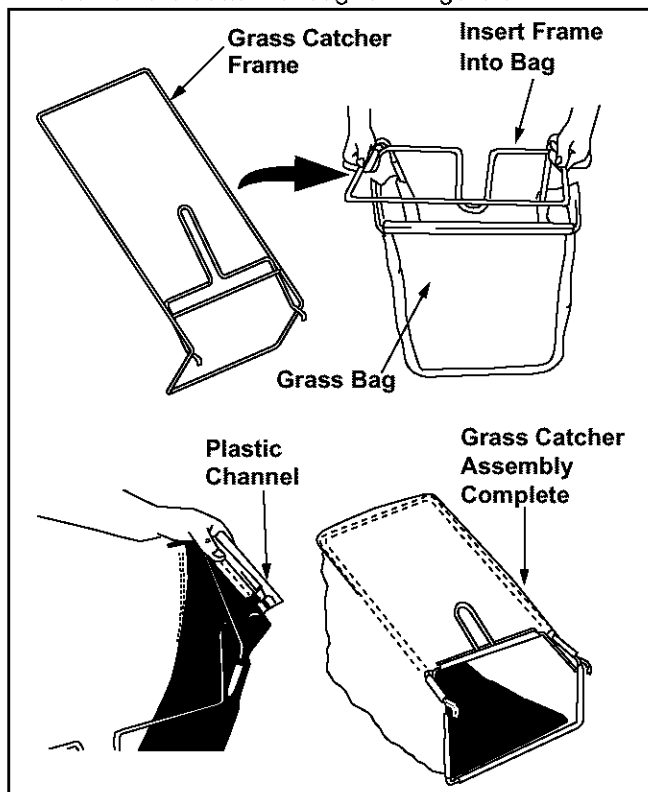

Figure 6
- Insert frame into grass bag with the black plastic side on the bottom of bag. See Figure 6.
- Slip the openings in the side of the plastic channel on bag over the hooks on the grass catcher frame. Secure bag to the frame by working the six plastic channels on bag over frame. All the plastic channels attach from the outside of bag. See Figure 6.